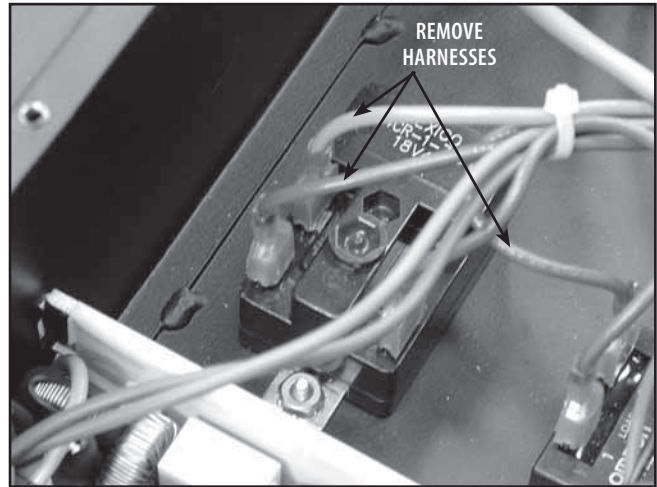

FIGURE 5.6
3. Remove the harnesses from the Starter Relay. See Figure 5.6.